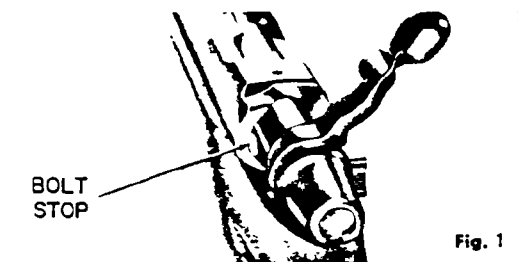

Fig. 1
**CLEANING AND CARE** — **Caution:** Make sure rifle is empty of live ammunition before cleaning. To make cleaning of barrel or bolt easier remove bolt from rifle. (See Fig. 1). Use a good petroleum solvent for cleaning of parts.